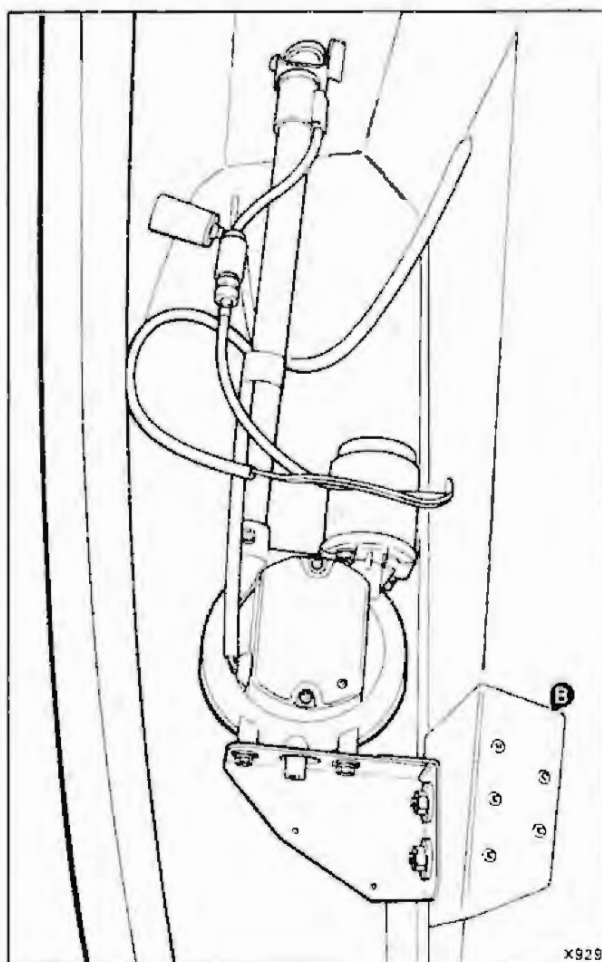

Fig.3
6. Affix the bracket 'B' securely to the body section, using pop rivets supplied in the fitting kit (see fig. 3).